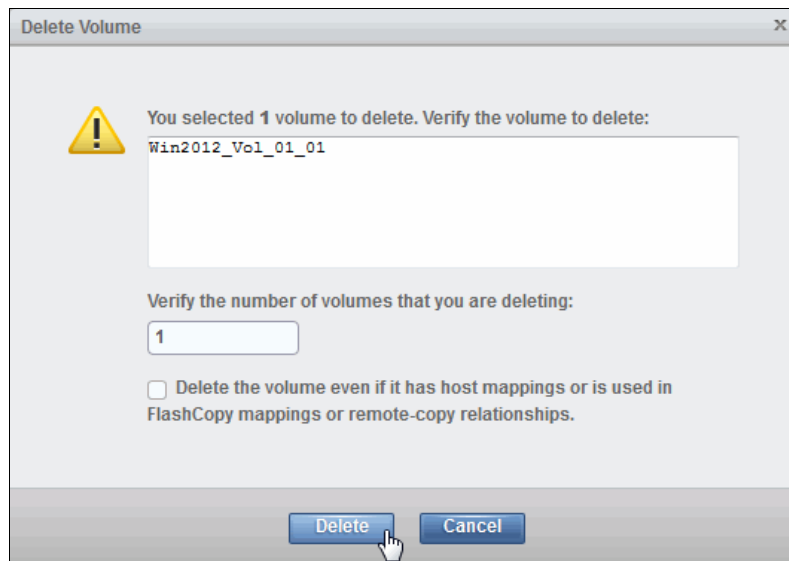

Figure 8-53 Delete Volume pane
2. Confirm the number of volumes to be deleted. If you want to force the deletion, select the **Delete the volume even if it has host mappings** option, as shown in Figure 8-53.